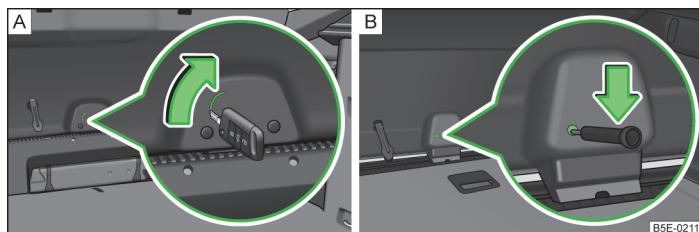

Fig. 211 Emergency unlocking: Octavia/Octavia Estate
- Insert the vehicle key into the slot in the trim panel as far as the stop » Fig. 211 - [A].
- Insert a screwdriver or similar tool into the opening of the trim as far as it goes » Fig. 211 - [B].